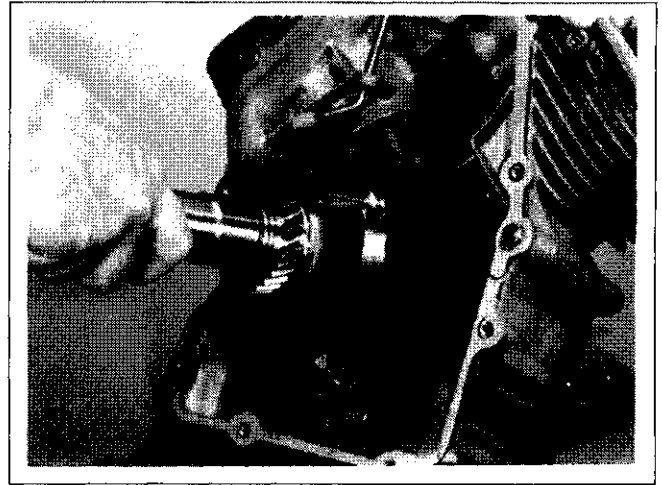

Figure 9-65. Removing Crankshaft.
1. Carefully pull the crankshaft from the crankcase. See Figure 9-65. Note thrust ring washers and shims if used.